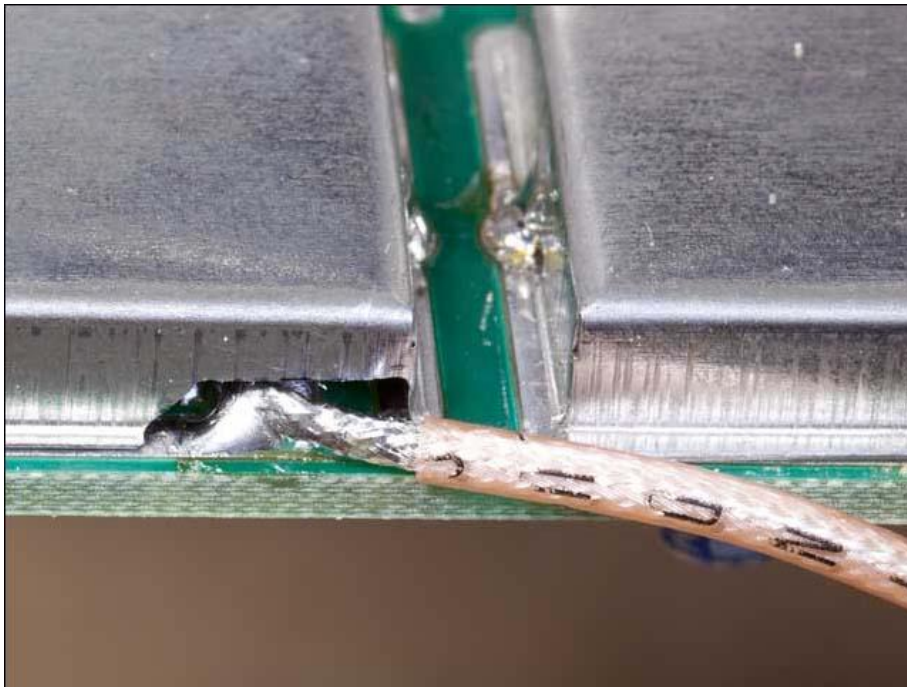

Figure 6: Coax Exiting Shield
10. The bottom edge of the shield must be carefully enlarged to accommodate the coax (Figure 6). Reseat the shield and re-solder the two tabs.